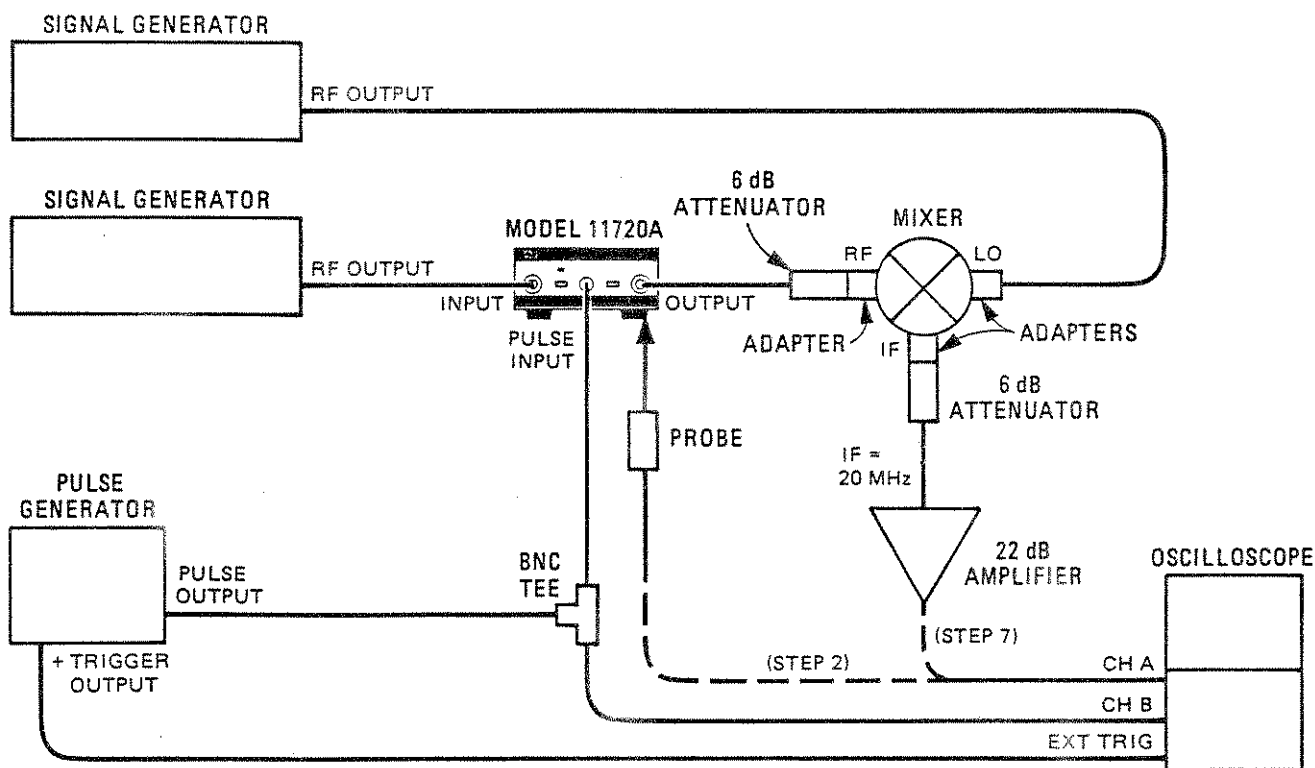

Figure 10. Rise and Fall Time Adjustment Test Setup
2. Connect equipment as shown in Figure 10 leaving the 22 dB amplifier's output disconnected and connecting the divide by 10 probe to the oscilloscope.